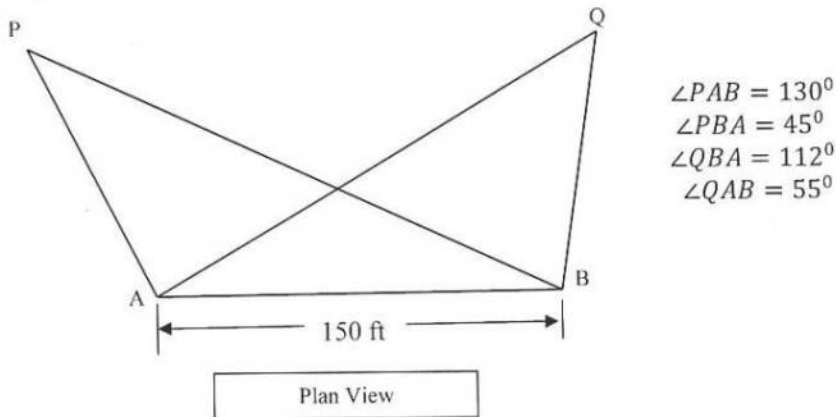

Figure 2
- (c) Two tower structures are located at points P & Q. Readings are taken with two theodolite from two points A and B 150ft apart. Plan view is given in **Figure 2**. The R.L. of instrument centre at A & B are 25.2 ft and 20.4 ft respectively. The vertical angle readings from A to top towers at P & Q are 40° and 30° respectively. Determine the aerial distance between top of towers at P & Q. (10)